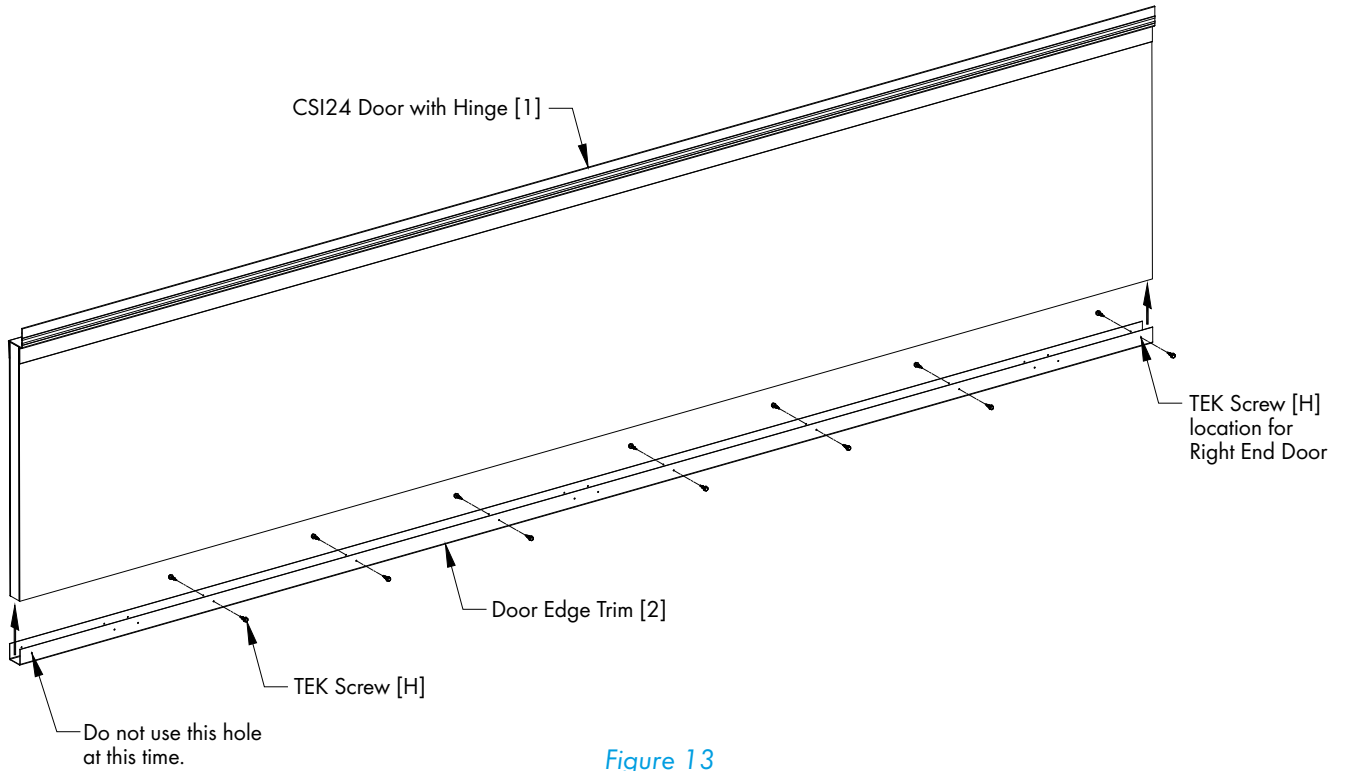

Figure 13
Slide Door Edge Trim [2] onto the bottom edge of the CSI24 Door [1] and secure it with (14) TEK Screws [H] through the (6) single holes in the middle area of the Door Edge Trim and the right most hole. See Figure 13.